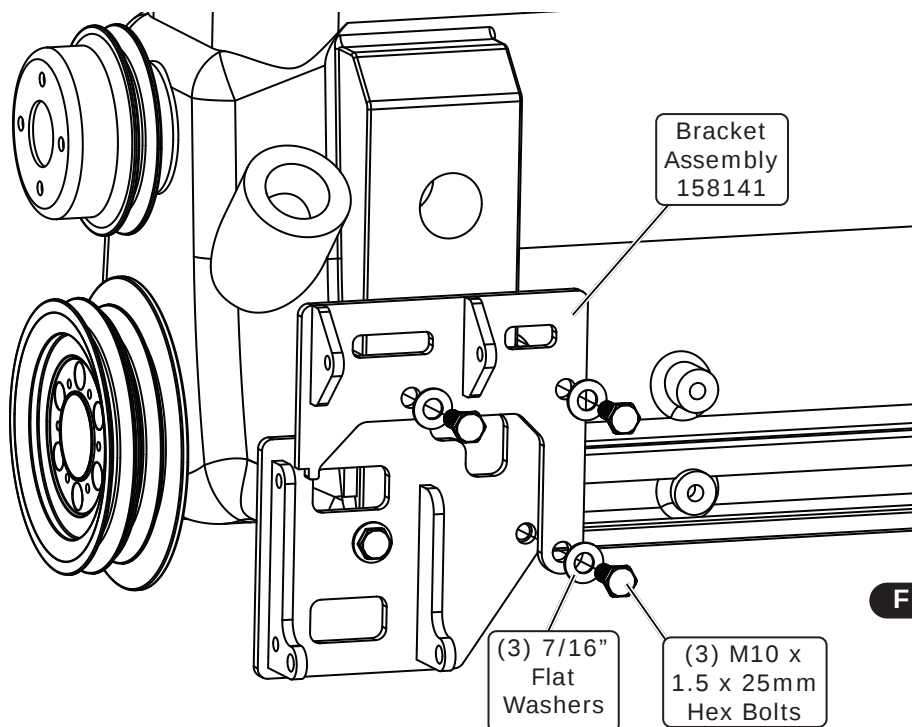

Figure 2
3. Install the bracket assembly through the compressor bracket and into the engine block using (3) M10 x 1.5 x 25mm hex bolts and (3) 7/16" flat washers as shown in Figure 2, below. Tighten all bolts.